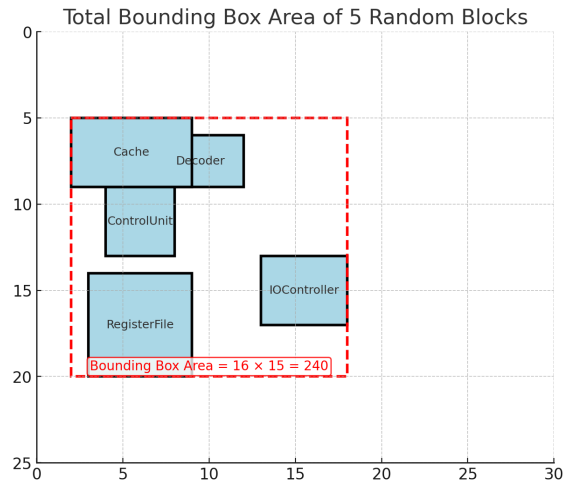
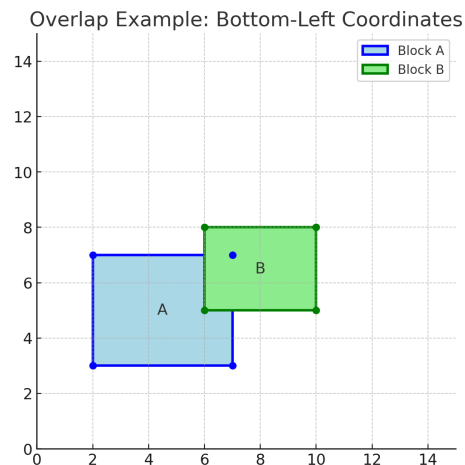

Figure 2
Figure 3
2. **Minimizing the total bounding area:** Figure 2 above hints at how the total bounding area can be calculated for a random placement of 5 component blocks. The red dashed rectangle is the bounding box- aka the smallest rectangle that contains all of the blocks inside. Given the bottom left coordinates (x,y) for all block components, you can easily find out the minimum and maximum of all x and y values, which will help you to calculate the area of such a bounding box $[(x_{\max} - x_{\min}) * (y_{\max} - y_{\min})]$. The **smaller** the bounding box area is, the **better** the layout is.
3. **Minimizing total component overlaps:** In Figure 2, there exists an overlap between the two components (cache and decoder). A single block can, in fact, be overlapped with multiple other blocks in a random placement. **Overlaps are not desirable.** Hence, a heavy penalty will be applied for each overlapping block pair. For any two block pairs A and B (Figure 3), one possible way to figure out the overlap is by checking the following condition: